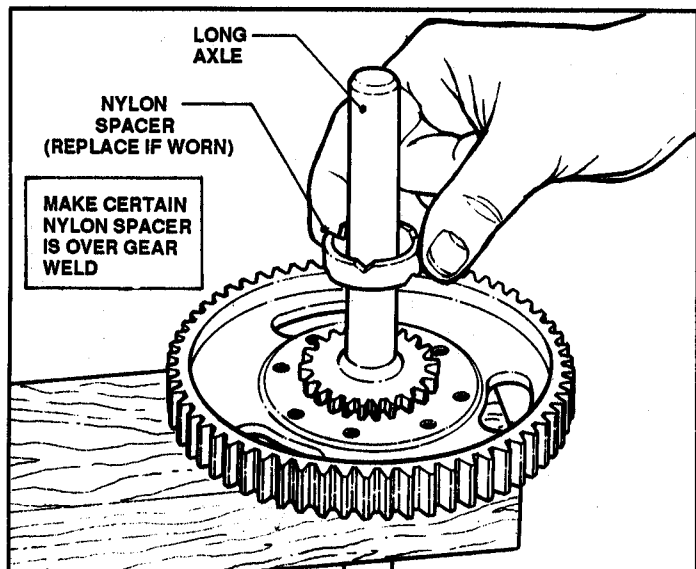

FIGURE 4.22
3. Install the nylon spacer on the long axle around the weld. (This spacer establishes proper position of the long and short axles. Replace spacer if damaged or worn). See Figure 4.22.